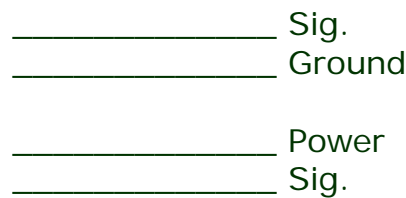
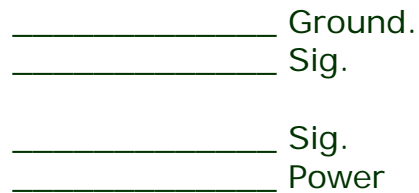
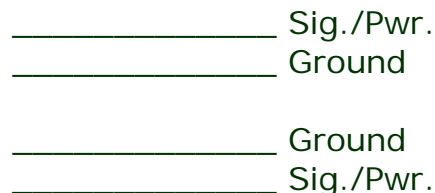

Figure 2
Figure 3a
Figure 4
The advantages of tight coupling between the signal (trace) layers and the current return planes will more than outweigh the disadvantage caused by the slight loss in interplane capacitance. Therefore, the simplest way to improve the EMC performance of a four-layer board is to space the signal layers as close to the planes as possible ($<0.010''$), and use a large core ($>0.040''$) between the power and ground planes as shown in Fig. 2. This has three advantages and few disadvantages. The signal loop areas are smaller and therefore produce less differential mode radiation. For the case of $0.005''$ spacing (trace layer to plane layer), this can amount to 10 dB or more reduction in the trace loop radiation compared a stack-up with equally spaced layers. Secondly, the tight coupling between the signal trace and the ground plane reduces the plane impedance (inductance) hence reducing the common-mode radiation from the cables connected to the board. Thirdly, the close trace to plane coupling will decrease the crosstalk between traces. For a fixed trace to trace spacing the crosstalk is proportional to the square of the trace height. This is one of the simplest, least costly, and most overlooked method of reducing radiation on a four-layer PCB. With this configuration we have satisfied both objectives (1) and (2).
What other possibilities are there for a four-layer board stack-up? Well, we could become a little **non-conventional** and reverse the signal layers and the plane layers in Fig. 2, producing the stack-up shown in Fig 3a.
A fourth possibility, not commonly used, but one that can be made to perform very well, is shown in Fig. 4. This is similar to Fig. 2, but with the power plane replaced with a ground plane, and power routed as a trace on the signal layers.
So, as you can see there are more options available, than you might have originally thought, for four layer board stack-up. It is possible to satisfy four of our five objectives with a four layer PCB. The configurations of Figures 2, 3b, and 4 all can be made to perform well from an EMC point of view.